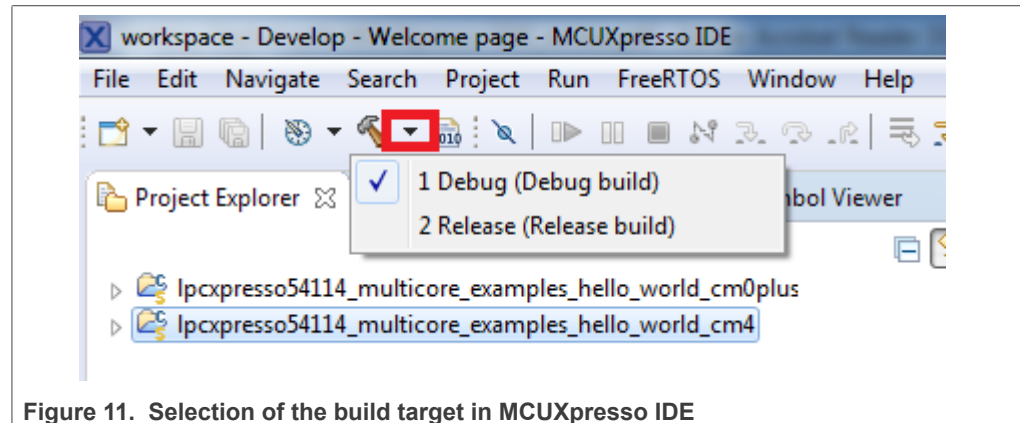

Figure 11. Selection of the build target in MCUXpresso IDE
- Now, two projects should be imported into the workspace. To start building the multicore application, highlight the `lpcxpresso54114_multicore_examples_hello_world_cm4` project (multicore master project) in the Project Explorer. Then choose the appropriate build target, **Debug** or **Release**, by clicking the downward facing arrow next to the hammer icon, as shown in Figure 11. For this example, select **Debug**.